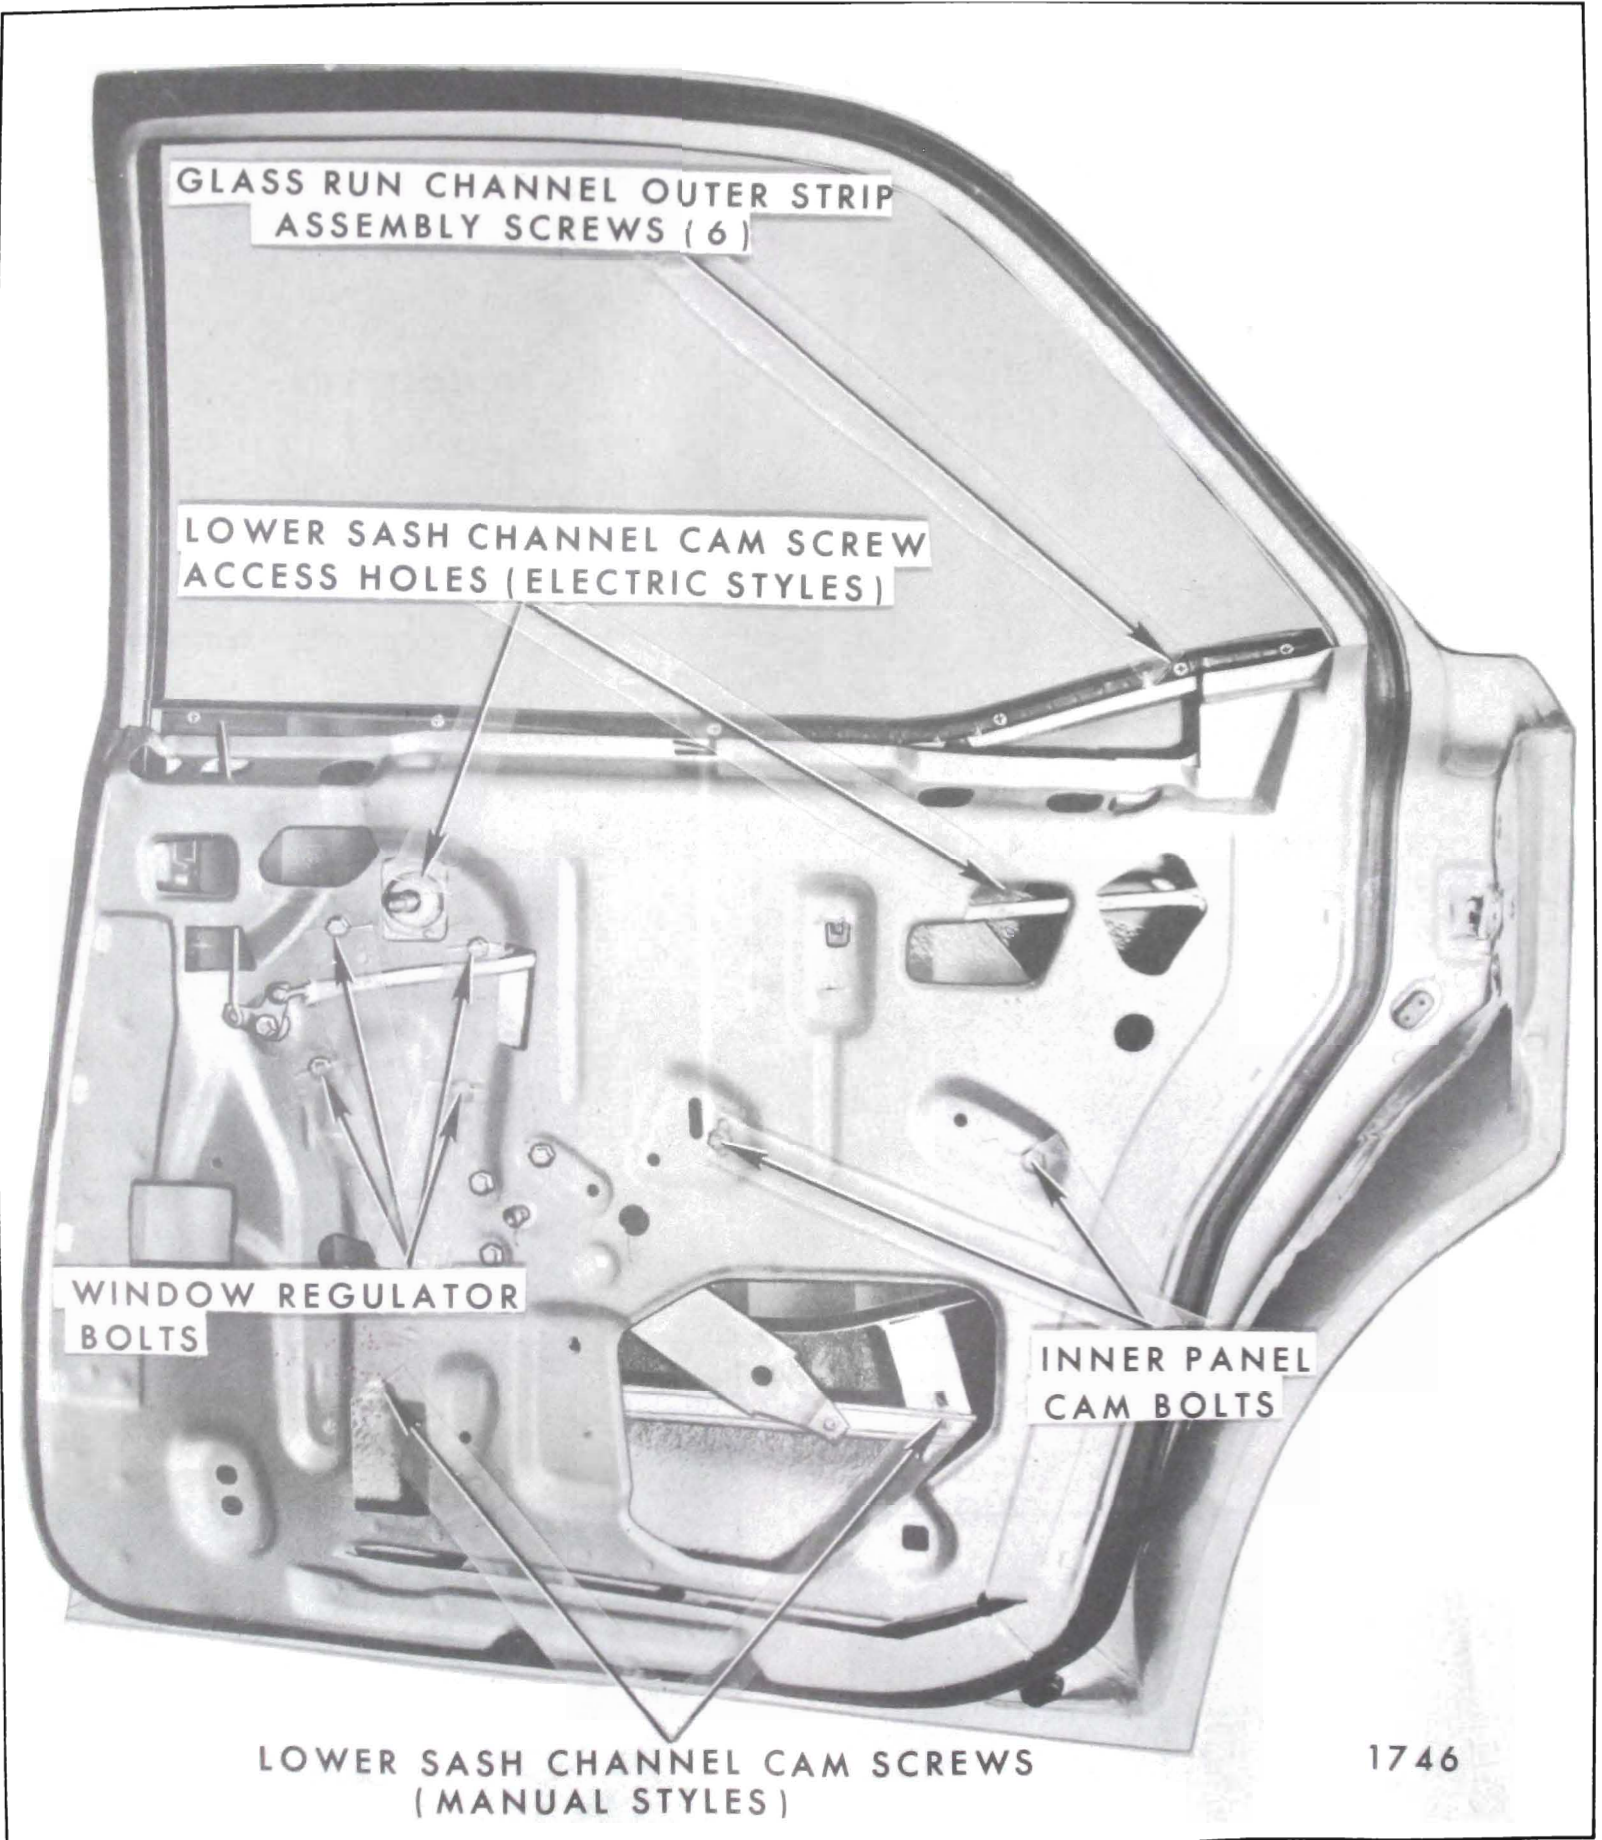
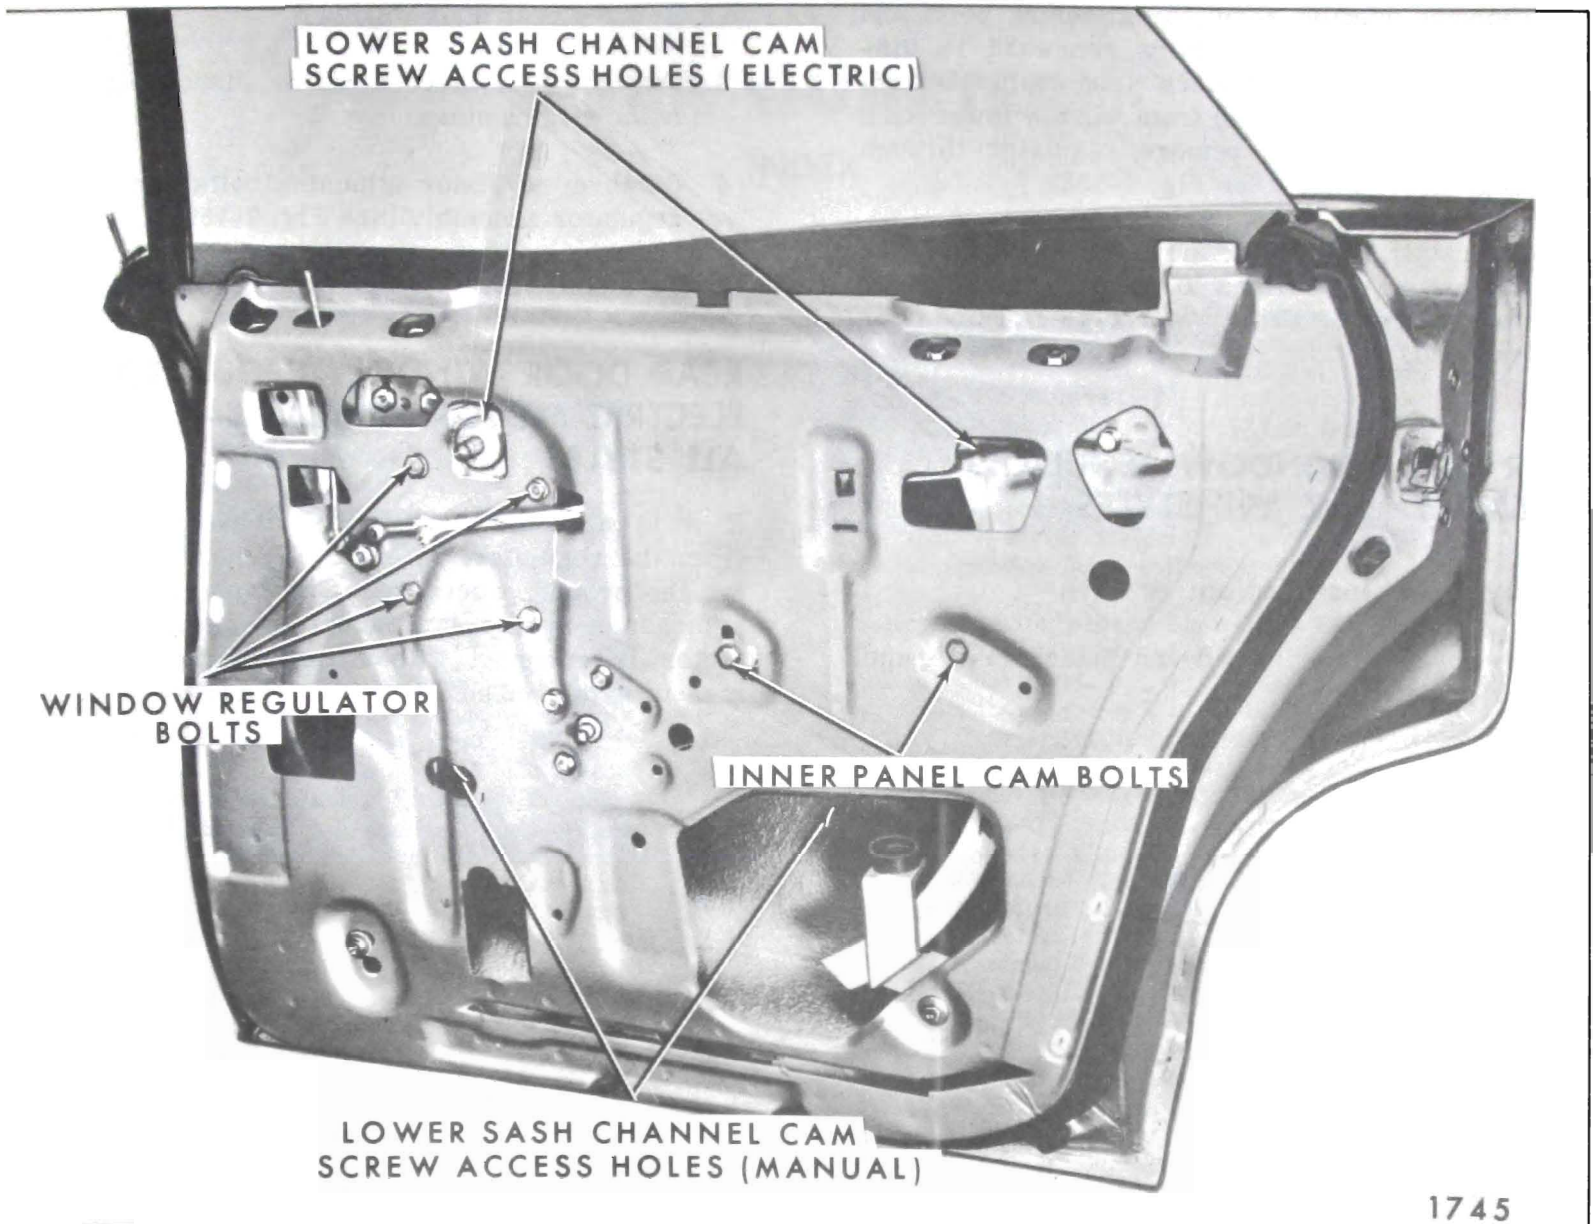

Fig. 7-160—Window Regulator Removal - "B" Closed Styles
Fig. 7-161—Window Regulator Removal - "Hardtop" Styles
2. Remove lower sash channel attaching screws (Fig. 7-160 for “closed” styles, 7-161 for “hardtop” styles).
4. Remove inner panel cam attaching bolts (Fig. 7-160 for “closed” styles, Fig. 7-161 for “hardtop” styles).
6. Remove window regulator attaching bolts and remove regulator through large access hole. (Figs. 7-161 and 7-160).